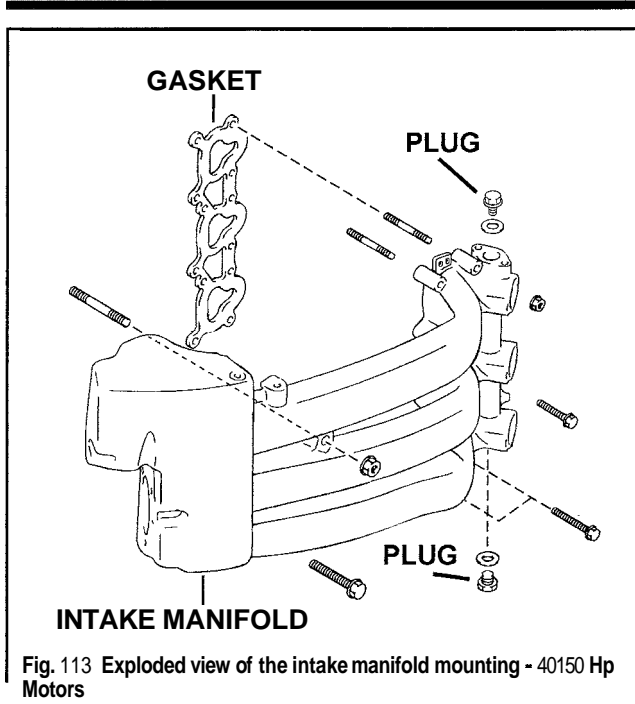

Fig. 113 Exploded view of the intake manifold mounting - 40150 Hp Motors
- † See Figures 113 and 114
- ◆ See Figures 113 thru 116